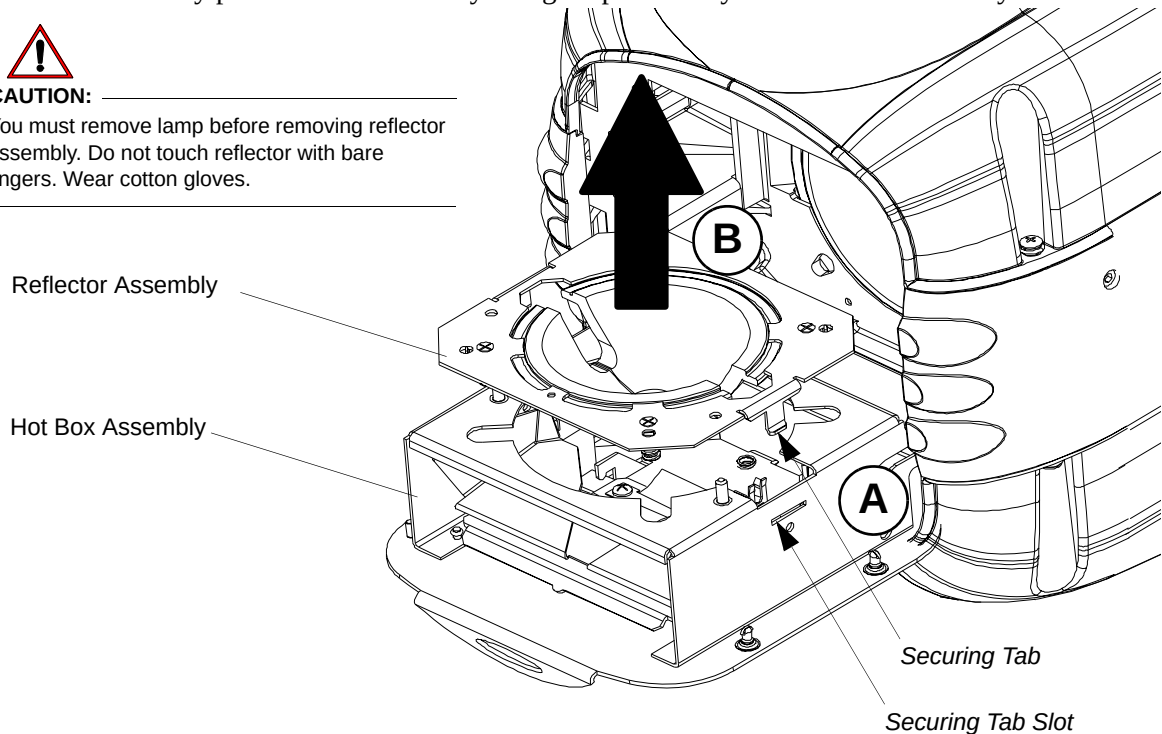

Figure A-8: Reflector Removal
- Press tabs (one on each side) securing reflector assembly into hot box (as shown in Figure A-8), inwards to release reflector assembly.